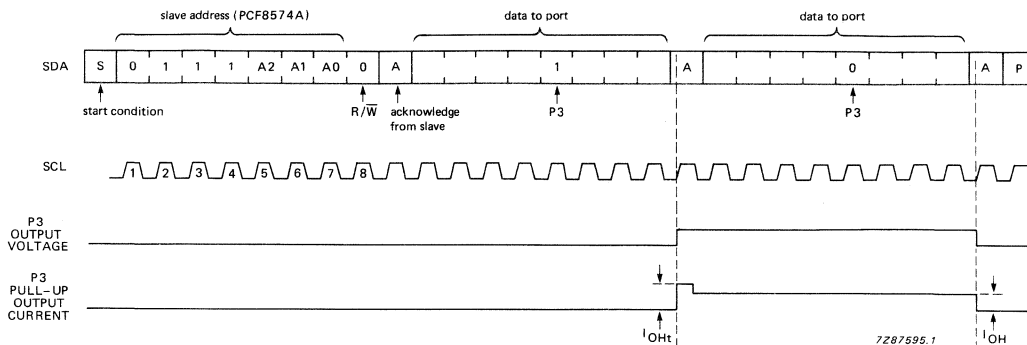

Fig.14 Transient pull-up current  $I_{OHt}$  while P3 changes from LOW-to-HIGH and back to LOW.
**FUNCTIONAL DESCRIPTION** (continued)**Quasi-bidirectional I/O ports** (see Fig.14)